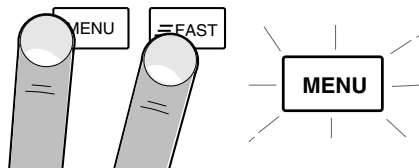

Figure 5.3
- Hold down the **FAST** and press **MENU**. (see Figure 5.3). The **MENU** key will illuminate. The first menu, **CONFIG.**, appears alone in the 2nd display.